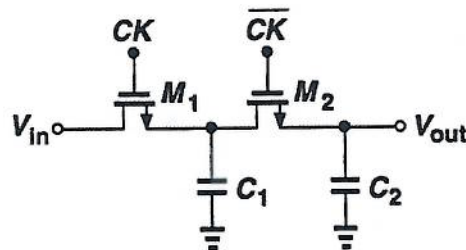

Figure 5.1
a) Figure 5.1 shows a discrete time RC integrator.
iii) For the circuit Figure 5.1, when CK goes low all of the channel charge, Q_1 , of transistor M_1 is injected into C_1 . This causes an error voltage ΔV_{C1} in C_1 defined by: